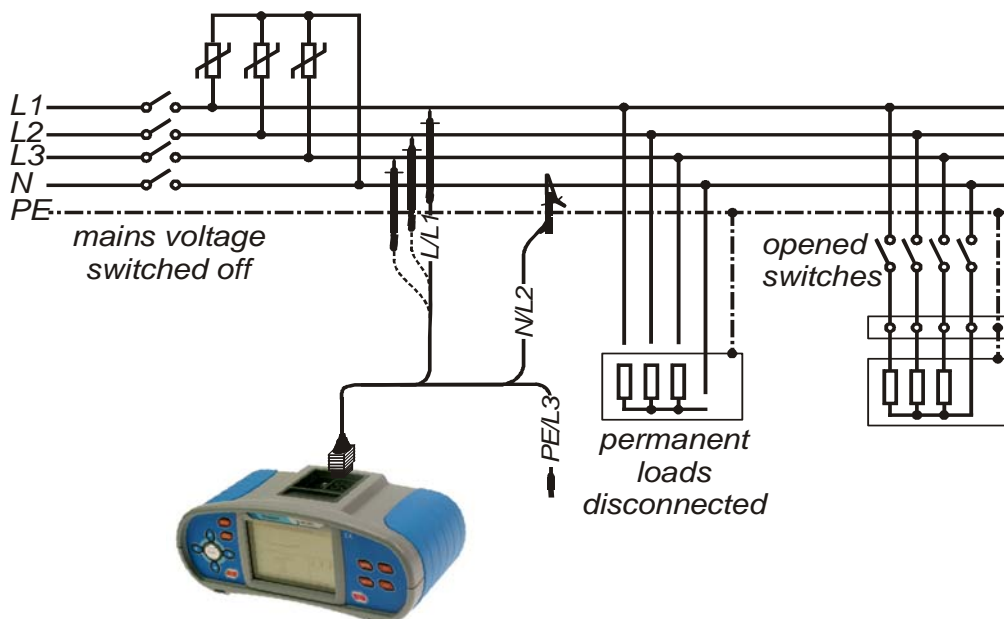

Figure 5.58: Connection of universal test cable for varistor test
- ❑ **Connect** test cable to the instrument and tested item (see *figure 5.58*).